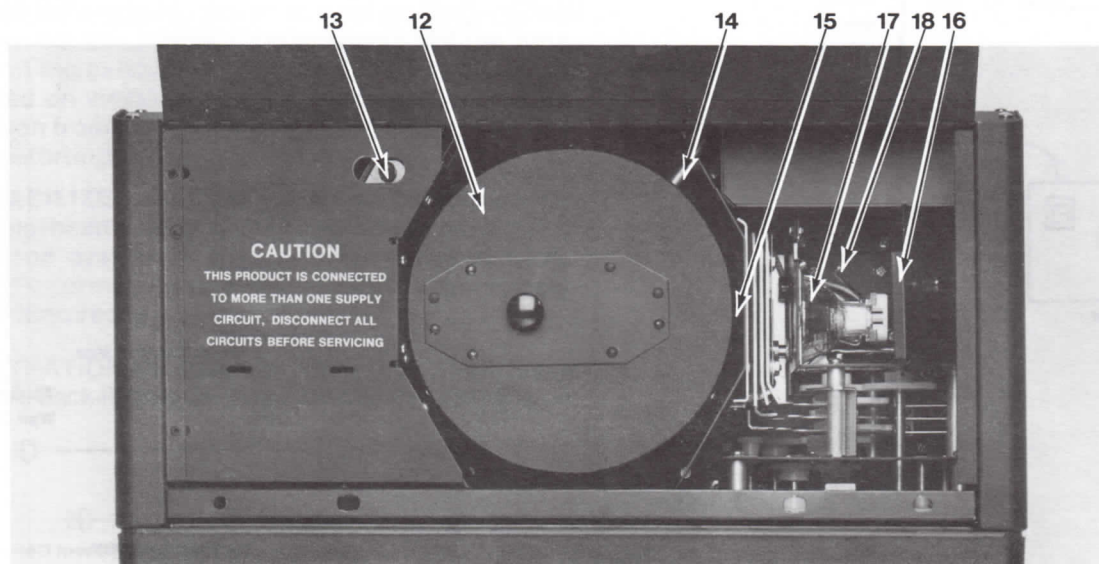

Figure 2
- B. Pick up the other chamber and make sure the mixing chamber window (heat absorbing glass—Fig. 2, item 15) and the locating pin (Fig. 2, item 14) are on the right; that is, toward the lamp.
4. Locate the lamp compartment and lift up door (Fig. 2, item 16).